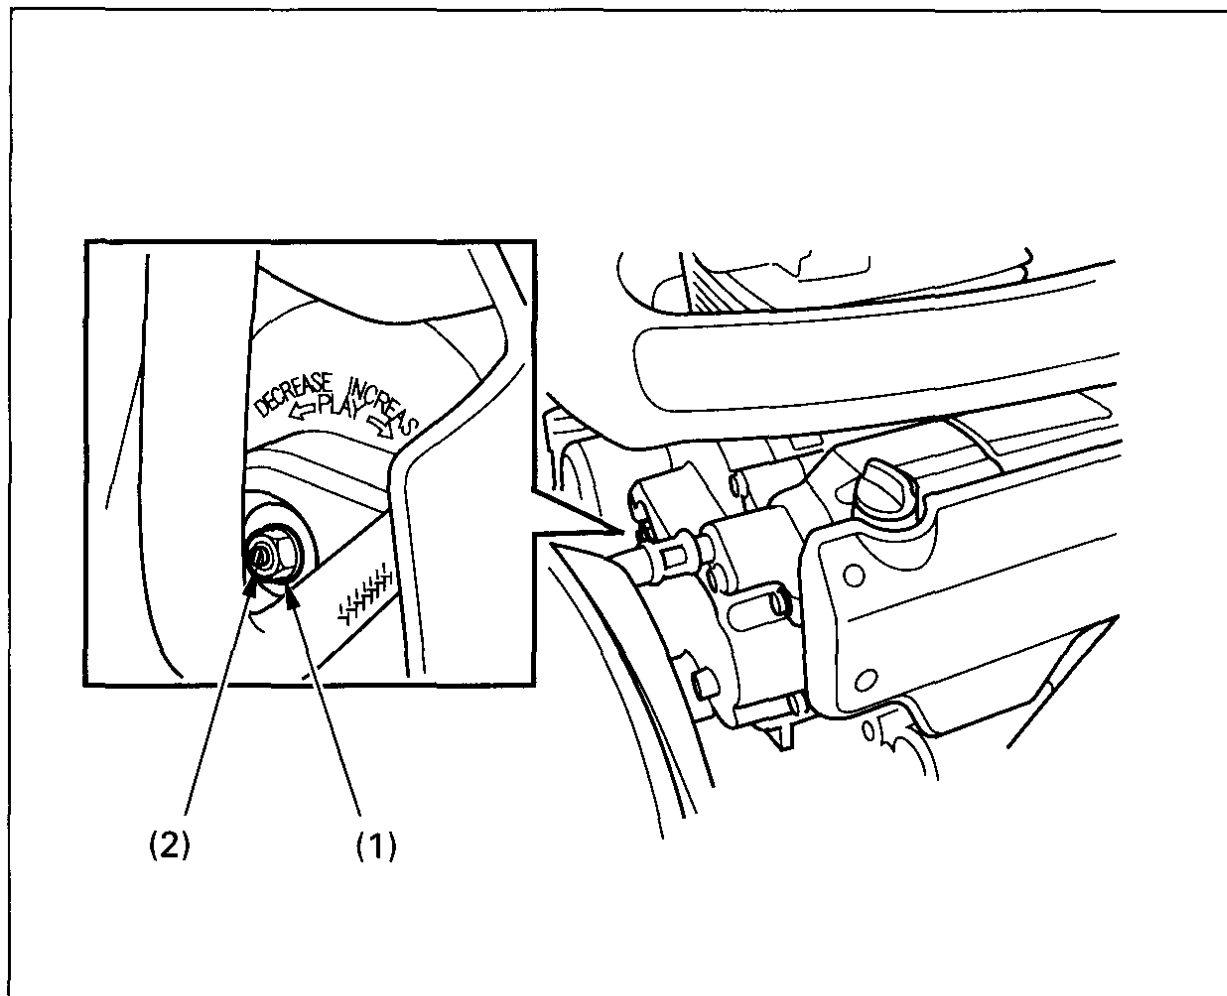

Fig. 4-16 (1) Lock nut
1. Make sure the ignition switch is OFF (O).
2. Loosen the lock nut (Fig. 4-16), and turn the clutch adjuster (2) counterclockwise until you feel slight resistance.